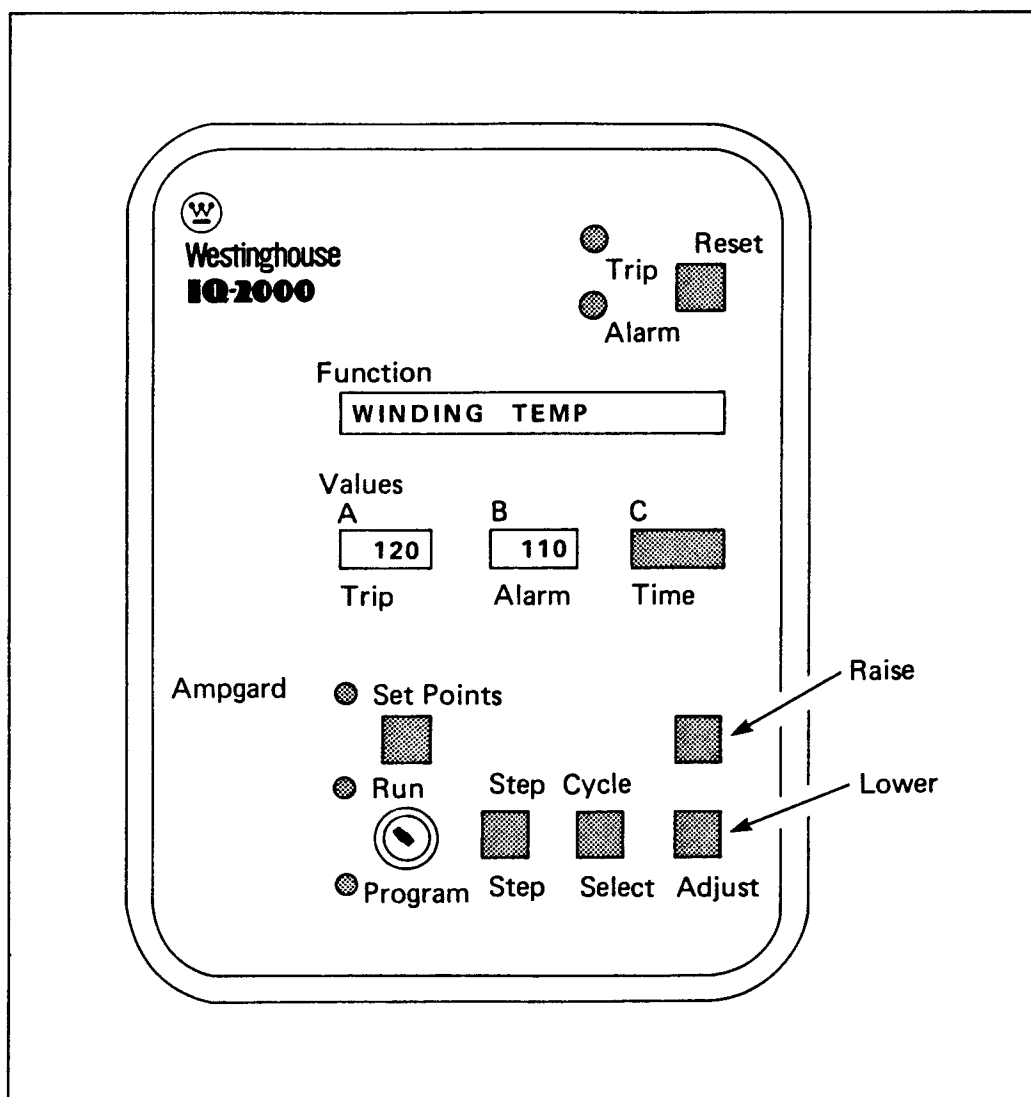

Figure 4.3 — Winding Temperature Displays
Step 1 — Turn the RUN/PROGRAM keyswitch to the PROGRAM position. At this time the FUNCTION window displays the message WINDING TEMP. If any setpoint values were previously entered, they will be shown in the VALUES windows. (See Figure 4.3.) If not, zeroes will be shown.